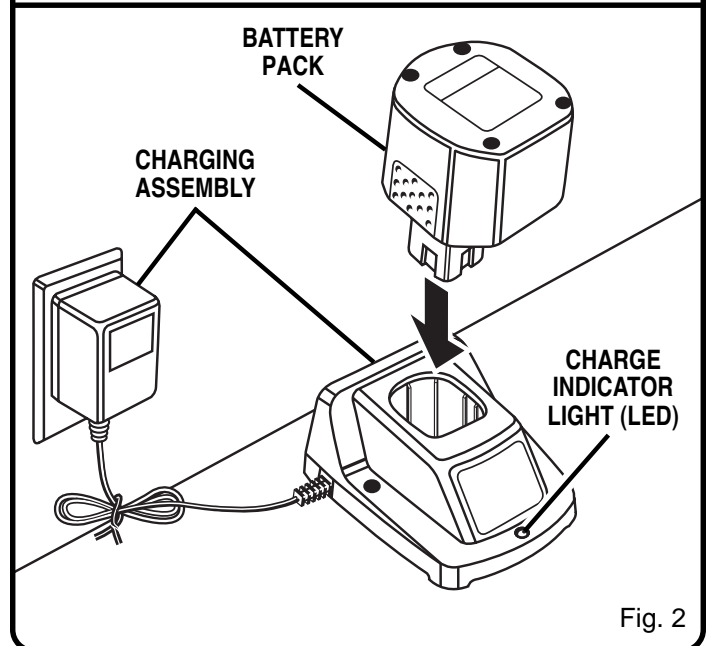

Fig. 2
- Place battery pack in charging assembly. Align raised rib on battery pack with groove in charging assembly. See Figure 2.